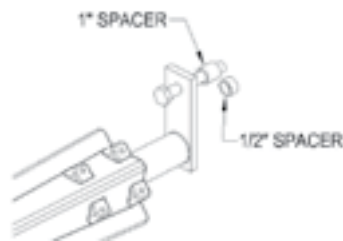

Figure 6
- B. Spacers are supplied to bring the steel swivel away from the frame in the event of any obstructions (see Figure 6).